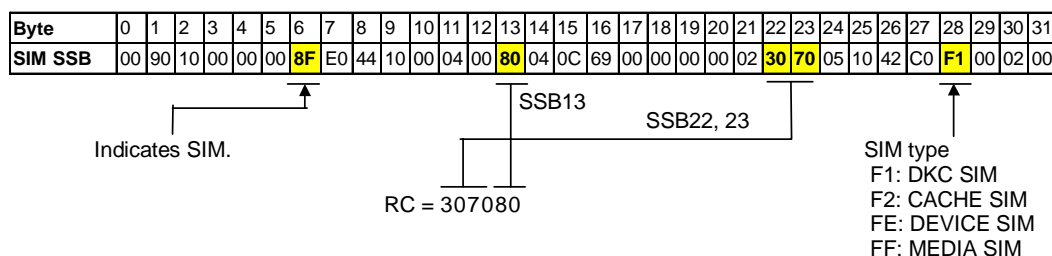

Figure 11-1 Typical SIM Showing Reference Code and SIM Type
Figure 11-1 shows a typical 32-byte SIM from the Hitachi USP V storage system. SIMs are displayed on the host console by reference code (RC) and severity. The six-digit RC (composed of bytes 22, 23, and 13) identifies the possible error and determines the severity. The SIM type (byte 28) indicates the component which experienced the error. When the value of byte 22 is 21, the SIM is a control unit SIM. When the value of byte 22 is Dx (where x is an arbitrary character), the SIM is a device SIM.